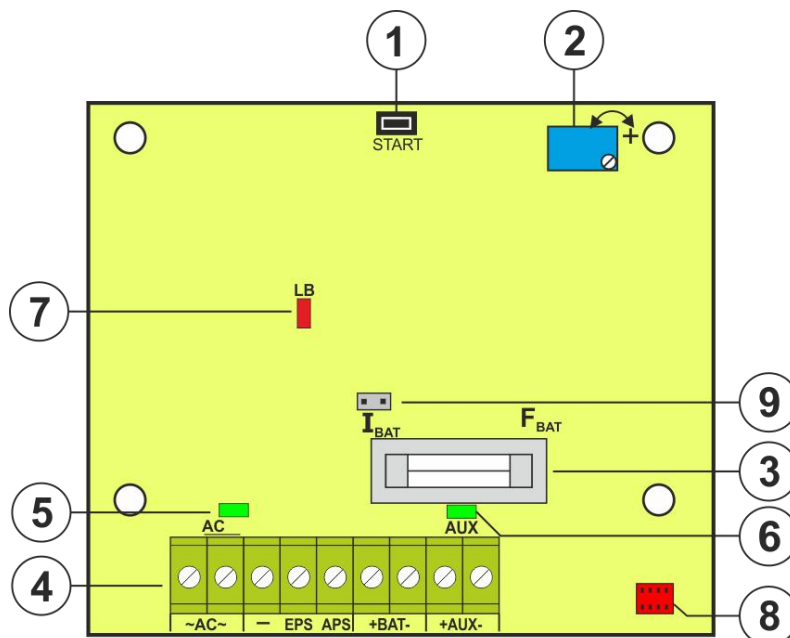
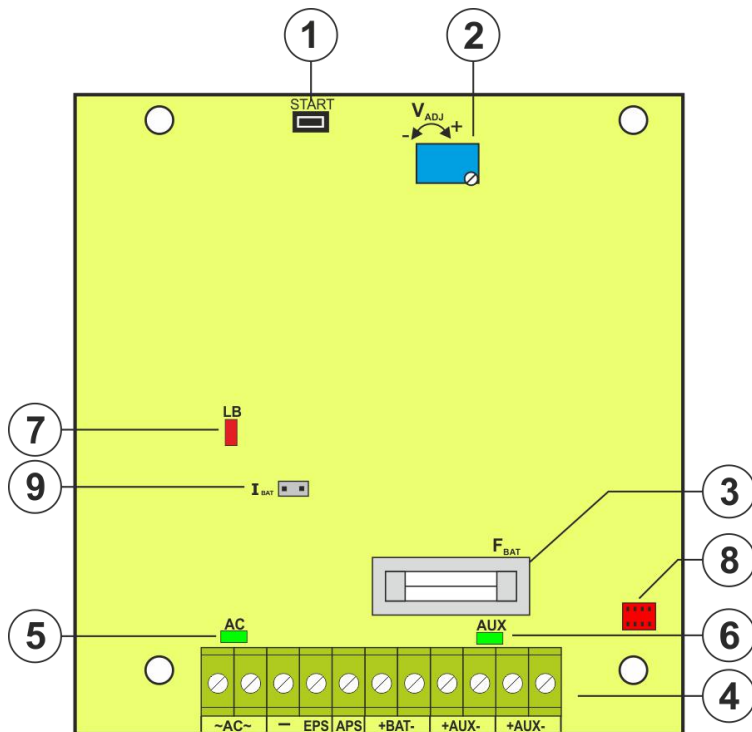
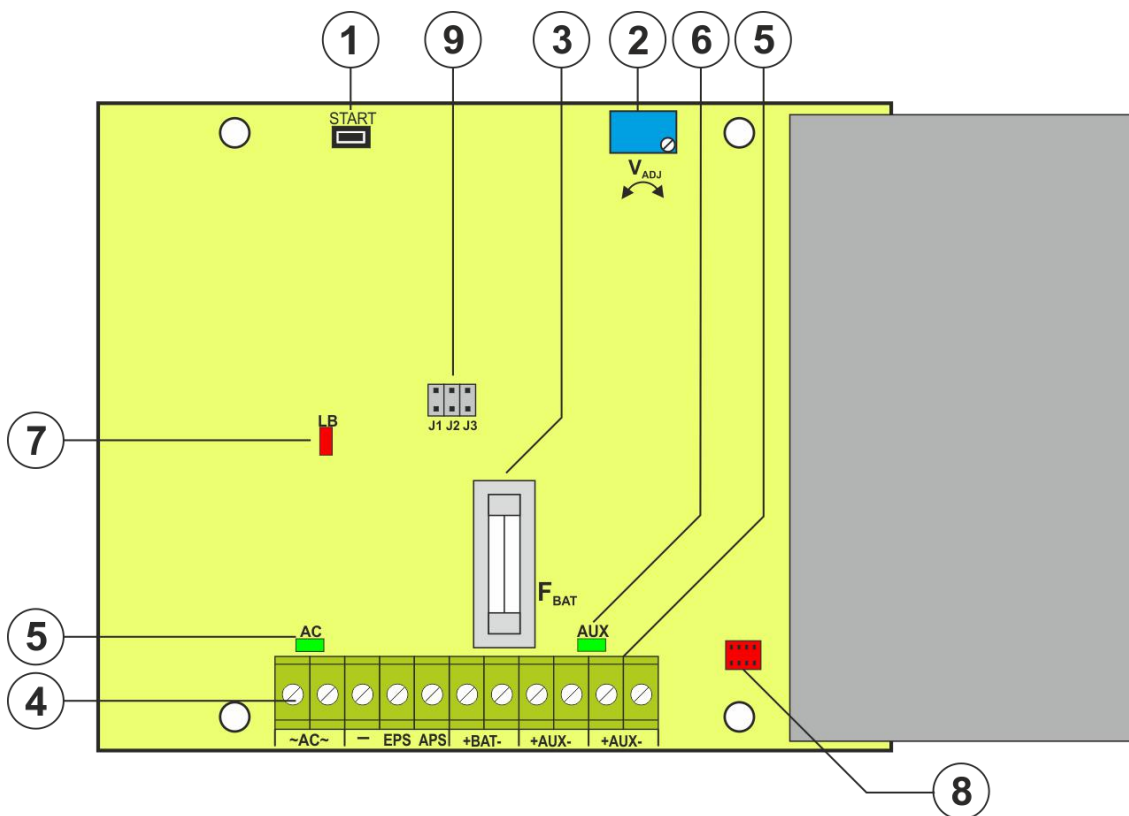

Fig. 2a. View of PCB board of 12V2A model
Fig. 2b. View of PCB board of 12V3A / 24V2A model
Fig. 2c. View of PCB board of 12V5A / 24V3A model
①	START button (launching from battery)
②	V_{ADJ} potentiometer, adjustable output voltage
③	F_{BAT} fuse in the battery circuit
④	Terminals: ~AC~ – AC power input EPS – technical output of AC power loss indication hi-Z state = AC power failure 0V state = AC power - O.K. APS – technical output of battery failure hi-Z state = failure 0V state = PSU status O.K. +BAT- – terminals for battery connection +AUX- – DC power supply output, (+AUX= +U, -AUX=GND) Description: hi-Z – high impedance, 0V – connection to the ground GND
⑤	LEDs – AC – indication of presence of main power
⑥	LEDs – AUX – power supply output voltage indication
⑦	LEDs – LB – battery charging indication
⑧	Connector to the external LED indicators
⑨	Jumper I_{BAT}: – battery charging current configuration Power supply unit 12V2A (see Fig 2a) <ul style="list-style-type: none"> • I_{BAT} = , $I_{BAT} = 0,2$ A • I_{BAT} = , $I_{BAT} = 0,5$ A Power supply unit 12V3A / 24V2A (see Fig 2b) <ul style="list-style-type: none"> • I_{BAT} = , $I_{BAT} = 0,5$, A • I_{BAT} = , $I_{BAT} = 1,0$ A Power supply unit 12V5A (see Fig 2c) <ul style="list-style-type: none"> • J1=  J2=  J3=  $I_{BAT} = 0,5A$ • J1=  J2=  J3=  $I_{BAT} = 1A$ • J1=  J2=  J3=  $I_{BAT} = 2A$ Power supply unit 24V3A (see Fig 2c) <ul style="list-style-type: none"> • I_{BAT} = , $I_{BAT} = 0,5$, A • I_{BAT} = , $I_{BAT} = 1,0$ A Description:  jumper installed,  jumper removed